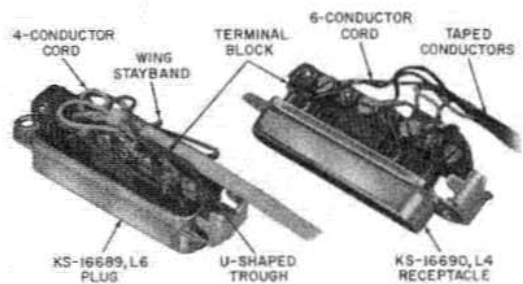

Fig. 9—153A and 153B Adapters, Hood Removed
- 153A adapter consists of a KS-16689,L6 plug with a terminal block fitted to the back of plug body (Fig. 9).
- A U-shaped trough on top and at cord entrance end of the terminal block assembly (Fig. 9) serves to retain the wing-type stay-band of cords so equipped.
- Cords with up to ten conductors (Fig. 9 and 11) may be used with the 153-type